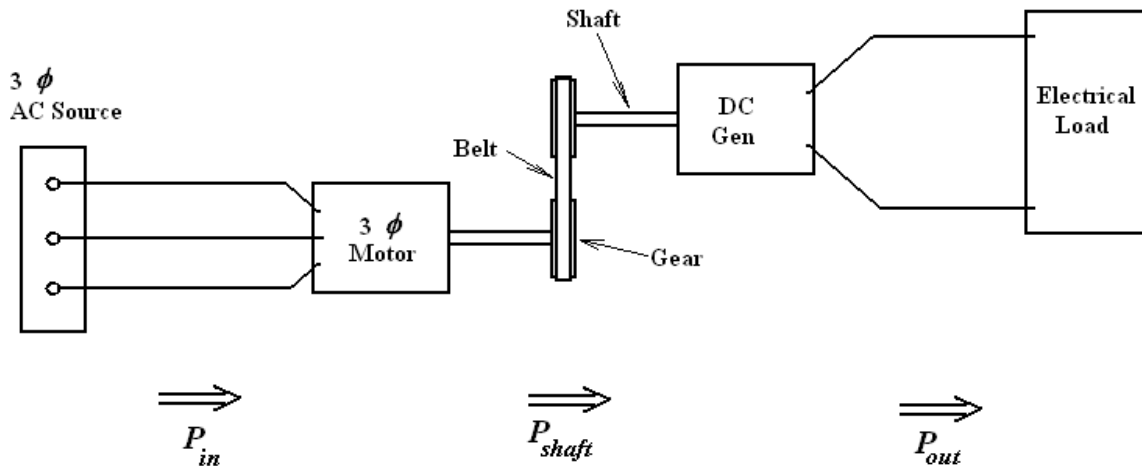
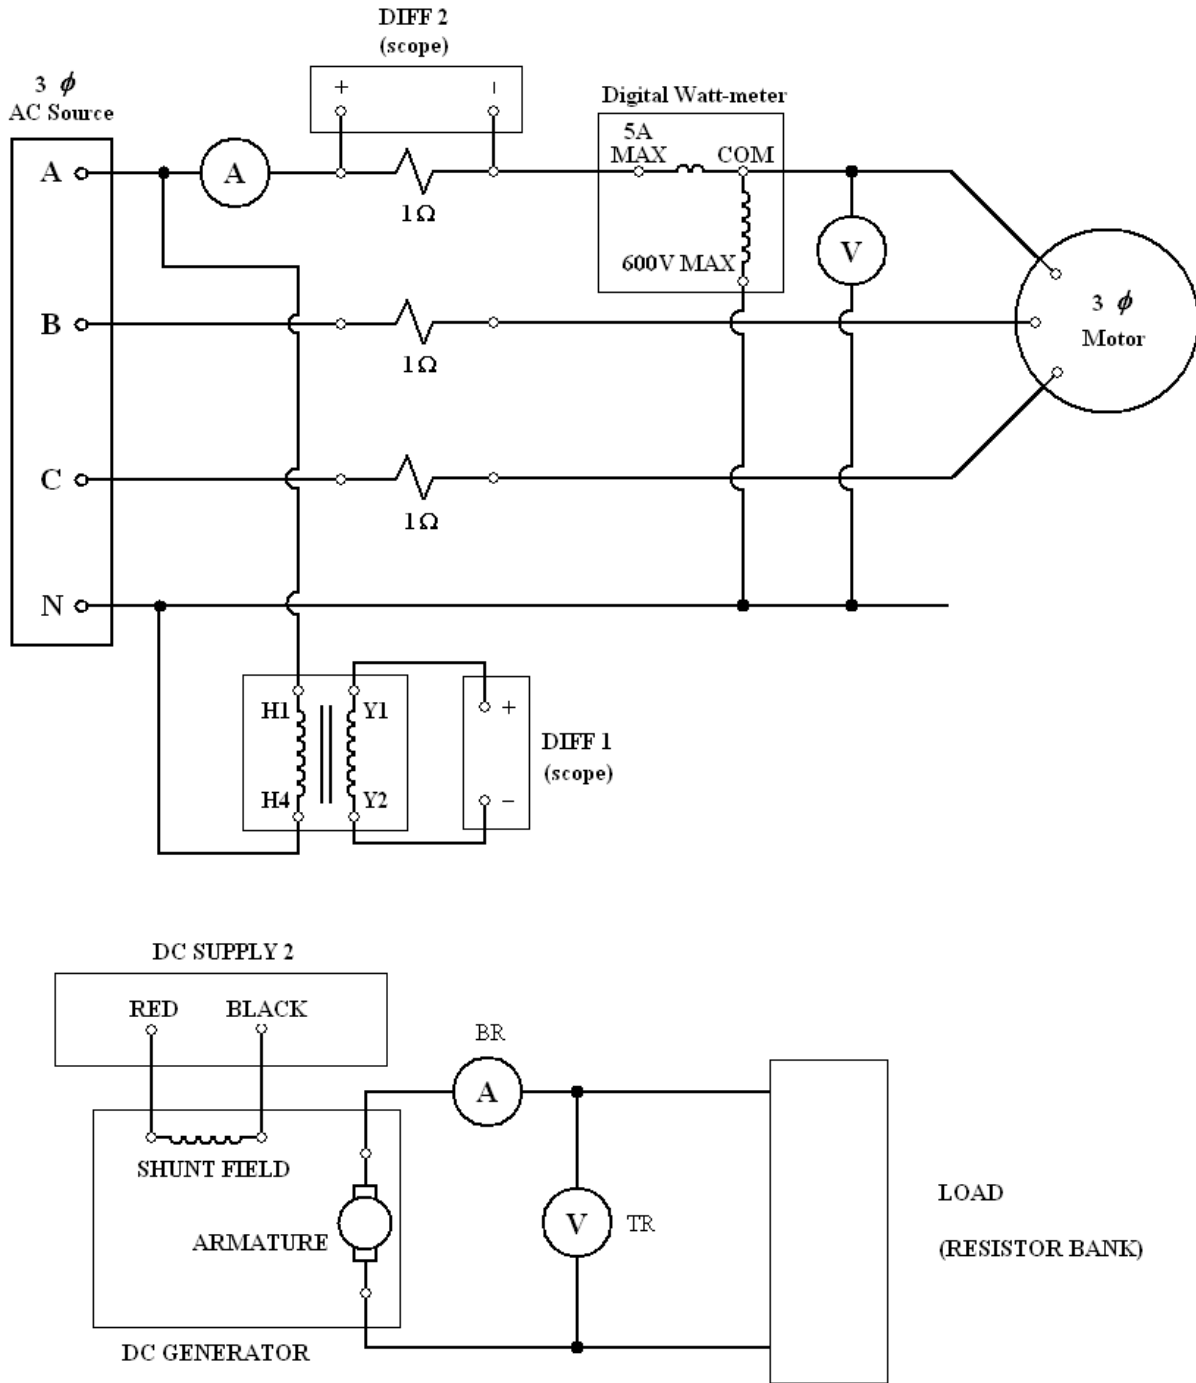

Figure 1
Figure 2
Motor – Generator sets have many practical applications. Our main interest with the present lab is to gain an understanding of basic power relationships in a simple electromechanical system in lieu of exploring practical applications. In understanding M-G set operation it is critical understand the “power flow path.” This path is defined as follows: power flows from the electrical source in the console into the motor. The motor converts this electrical power into mechanical power. This mechanical power is transferred to the generator via a belt and gear assembly and the generator converts this mechanical power into electrical power. Finally this electrical power is absorbed by the electrical load at the “end” of the system. Figure 1 shows the corresponding electromechanical diagram with energy flow direction.
The three-phase motor (blue faceplate) in Figure 1 is a 115V (line-line), ¼ horsepower motor. The generator is a 125 Volt, 1/3 horsepower DC machine that is an integral part of the dynamometer setup. The electrical load is a resistor bank with a total of five toggle switches which must be in the “**up**” position while running the experiment. Measurement equipment is not shown in figure one. In order to connect the measurement equipment needed to conduct the experiment you must make connections according to Figure 2
The generator is loaded by the resistor bank shown in Figure 2. All switches should be in the "off" position (center position) for no-load tests. To load the generator, move all 5 switches to the "up" position (50Ω load).
A. Connect the system shown in Figure 2. The transformer is used as 20:1 step down transformer on channel 1. Notice that the line current flow into the motor will be displayed on channel two of the scope. Since the one-ohm resistor must be inserted into a phase in order to measure current, a one-ohm resistor is also inserted into the other two phases in order to keep the circuit balanced. Notice that there is an ammeter and voltmeter connected on both the AC and DC circuits. Also notice that the DWM (digital watt-meter) is configured to display single-phase power, not three-phase power. Set the torque-meter to zero N•m’s before proceeding to the next step.